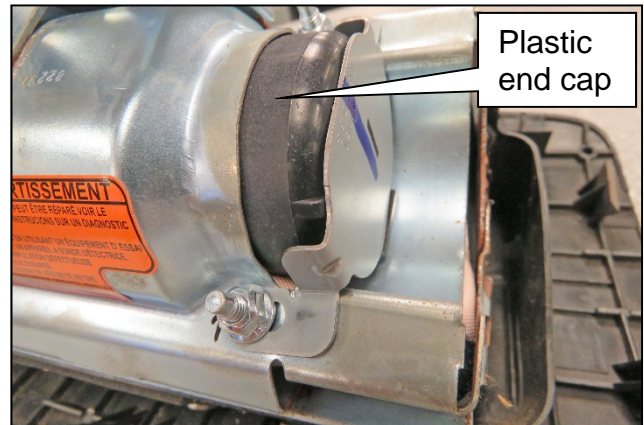
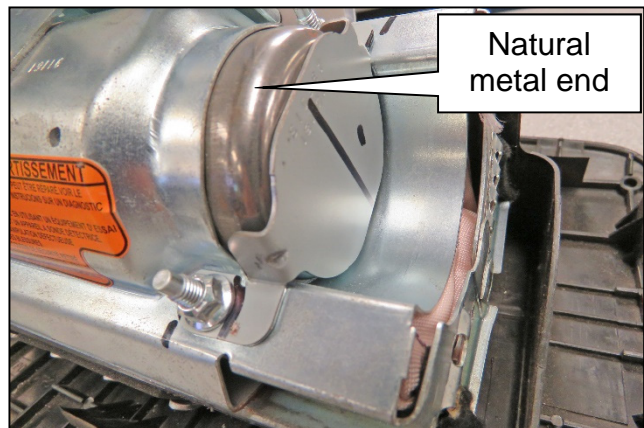

Figure 2
Figure 3
7. Inspect the front passenger air bag module where shown in Figure 2 and Figure 3, to confirm if it needs to be replaced.